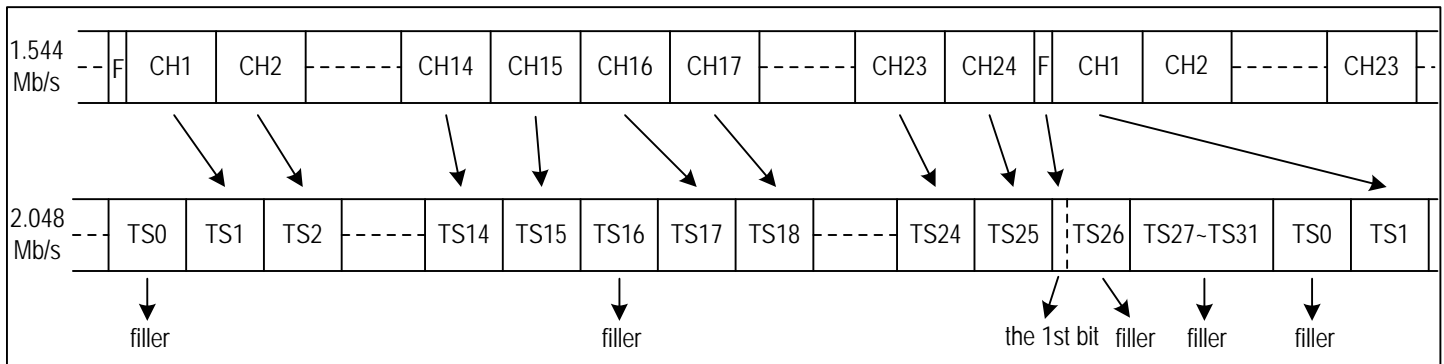

Figure 18. T1/J1 To E1 Format Mapping - G.802 Mode
1. T1/J1 Mode E1 Rate per G.802 (refer to Figure 18): Channel 1 to Channel 15 of Frame N from the device are converted into TS1 to TS15 of Frame N on the system side; Channel 16 to Channel 24 of Frame N from the device are converted into TS17 to TS25 of Frame N on the system side. The F-bit of Frame N from the device is converted into the first bit of TS26 of Frame (N-1) on the system side. TS0, TS16, TS27-TS31